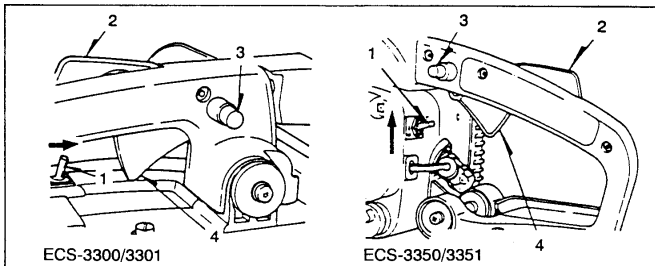

Fig. 2-2
Starting (Fig. 2-2, 3)
2. With the safety trigger (2) pressed pull throttle trigger (4) and push throttle lock (3), then slowly release the throttle trigger first, then the safety trigger. This will lock the throttle in starting position. (Fig. 2-2)